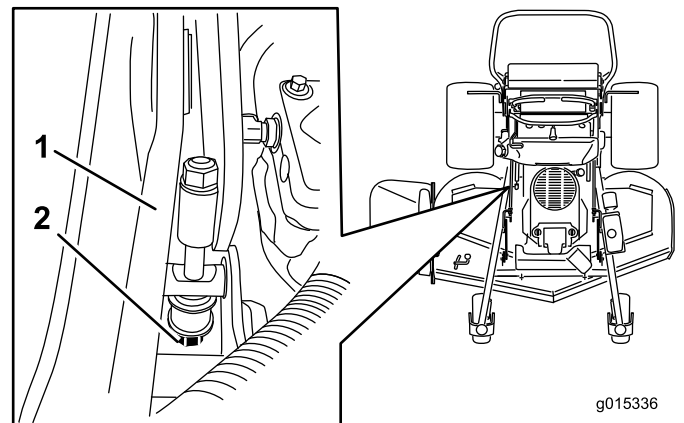

Figure 92
5. If it does not measure correctly, locate the height-of-cut rod on the right side of the machine (Figure 92).
6. Adjust the adjustment bolt until the blade tips match 7.6 cm (3 inches) as shown in Figure 92.